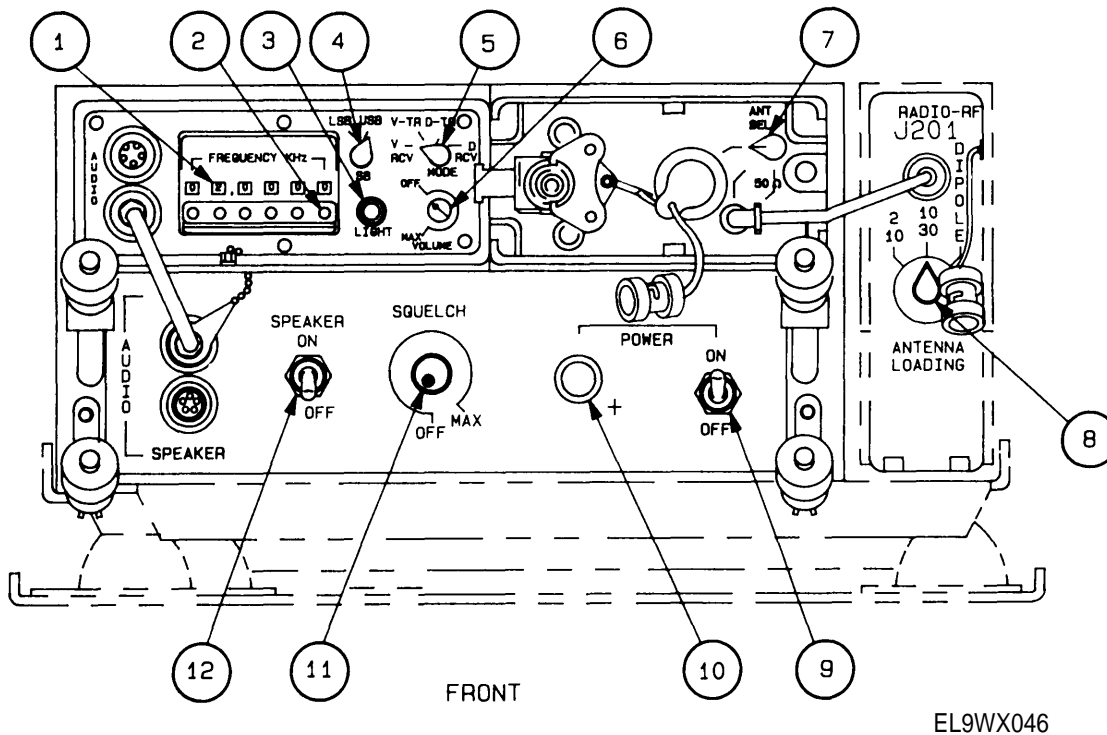

Figure 6-6. Controls and Indicators for Minimum Performance Test
- (1) Verify that the installation kit has been properly installed as outlined in the Installation Instructions paragraph of TM 11-2300-476-14&P. Also verify that there is no evident damage that would affect operation. If the installation kit is improperly installed or damage is evident, notify organizational maintenance.
- (2) Verify that AN/GRC-213 has been properly mounted on the installation kit per paragraph 2-2 of this manual. Also verify that appropriate connections have been made per paragraph 2-3 of this manual. Complete any necessary mounting or connections as outlined.
- (3) Set the AN/GRC-213 controls as outlined in the following subparagraphs.
- 1 Set FREQUENCY KHz switches (2, fig. 6-6) to the operating frequency of another similar unit. Frequency should be displayed in indicator windows (1, fig. 6-6).
- 2 Set MODE selector switch (5, fig. 6-6) to V RCV.
- 3 Set SB selector switch (4, fig. 6-6) to USB. Verify other similar unit is also set to USB; set switch if necessary.
- 4 Set VOLUME OFF/MAX switch control (6, fig. 6-6) to OFF.
- (b) Amplifier/Coupler. Set the amplifier/coupler ANT SEL switch (7, fig. 6-6) to the center position (BNC connector).
- 1 Set SPEAKER switch (12, fig. 6-6) to OFF.
- 2 Set SQUELCH control (11, fig. 6-6) to OFF (fully counterclockwise).
- 3 Set POWER circuit breaker (9, fig. 6-6) to ON.
- (d) Switching Unit. Set the ANTENNA LOADING switch (8, fig. 6-6) on the switching unit (part of installation kit) as follows:
- 1 If the whip antenna is being used, set ANTENNA LOADING switch (8, fig. 6-6) to appropriate position, 2/10 or 10/30 (2 to 10 MHz or 10 to 30 MHz), for the operating frequency chosen.
- 2 If dipole or NVIS antenna is being used, set ANTENNA LOADING switch (8, fig. 6-6) to DIPOLE, regardless of operating frequency.
- (4) Turn VOLUME OFF/MAX switch control (6, fig. 6-6) on the receiver/exciter to midrange.
- (5) Verify the following conditions are present:
- (b) Light is visible in frequency indicator windows (1, fig. 6-6) when LIGHT switch (3, fig. 6-6) on receiver/exciter is pressed.
- (c) The POWER switch light (10, fig. 6-6) on amplifier-power supply is on.
- (6) Adjust the VOLUME OFF/MAX switch control (6, fig. 6-6) on receiver/exciter to a comfortable listening level.
- (7) Set SPEAKER switch (12, fig. 6-6) on amplifier-power supply to ON and verify the transmission signal from the similar unit can be heard on the loudspeaker.
- (8) Adjust SQUELCH control (11, fig. 6-6) on amplifier-power supply until transmission signal from similar unit just breaks squelch or is just heard in the loudspeaker.
- (9) Set SB selector switch (4, fig. 6-6) on receiver/exciter to LSB and monitor the signal for clarity. Then, set SB selector switch back to USB position.
- (1) Adjust AN/GRC-213 controls as outlined in the following subparagraphs.
- 1 Set MODE selector switch (5, fig. 6-6) to V-TR position.
- 2 Change the frequency (1 and 2, fig. 6-6) to unauthorized operational frequency to establish contact with the Net Control Station or other operators.
- (b) Switching Unit. Set the ANTENNA LOADING switch (8, fig. 6-6) on the switching unit (part of installation kit) control as follows:
- (2) Press and release the push-to-talk (PTT) switch on the handset and verify the following:
- (1) Establish two-way communication with another radio set and check the quality of received and transmitted signals.
- (2) If the AN/GRC-213 is not to be used further, perform the following:
- (a) Set FREQUENCY KHz switches (2, fig. 6-6) to 05000.00 KHz.